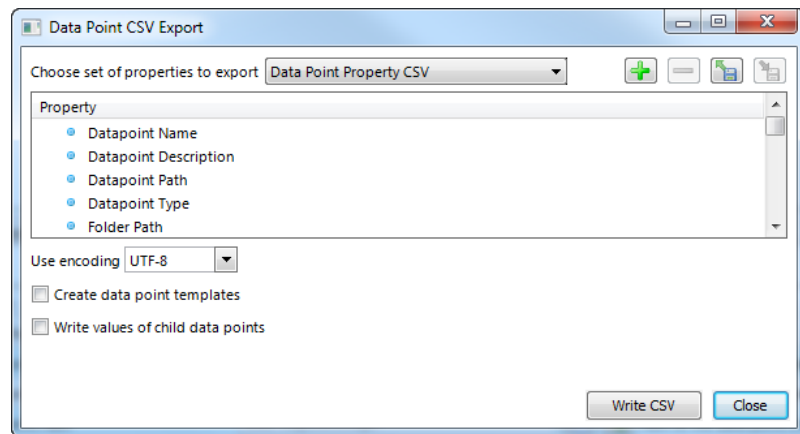

Figure 62: Data point CSV export dialog.
3. The Data Point CSV Export dialog opens as shown in Figure 62.